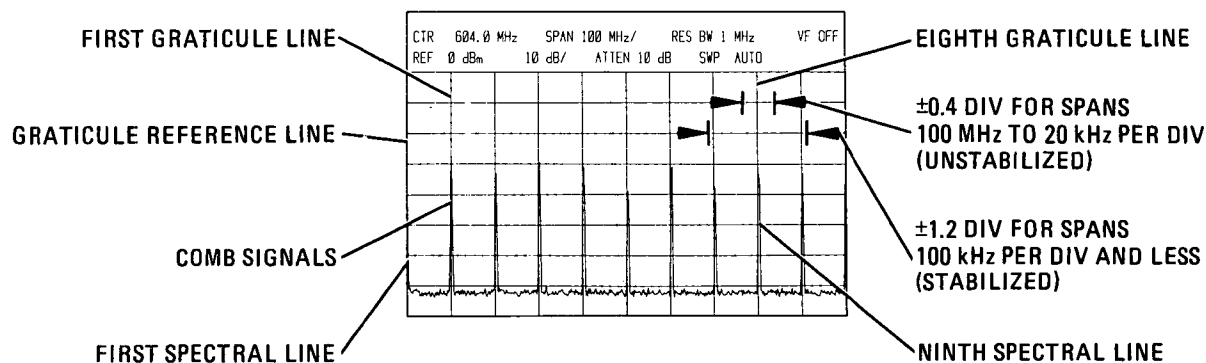

Figure 4-4. Span Width Accuracy Measurement, 100 MHz per Division and Less
13. Adjust spectrum analyzer TUNING control to position one spectral line (from comb generator) at graticule reference line (first graticule line at far left) of display. Measure error between ninth spectral line and eighth graticule line. Error should not exceed ± 0.4 division. (See Figure 4-4.)